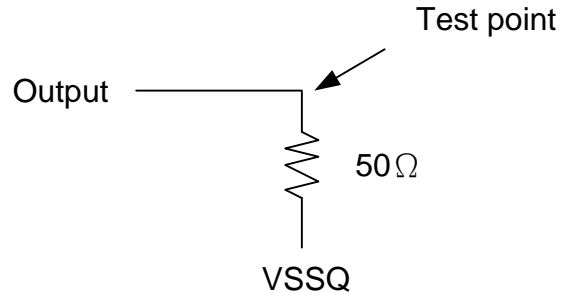

Figure 1: Pullup slew rate test load
- a. Pullup slew rate is characterized under the test conditions as shown in Figure 1.